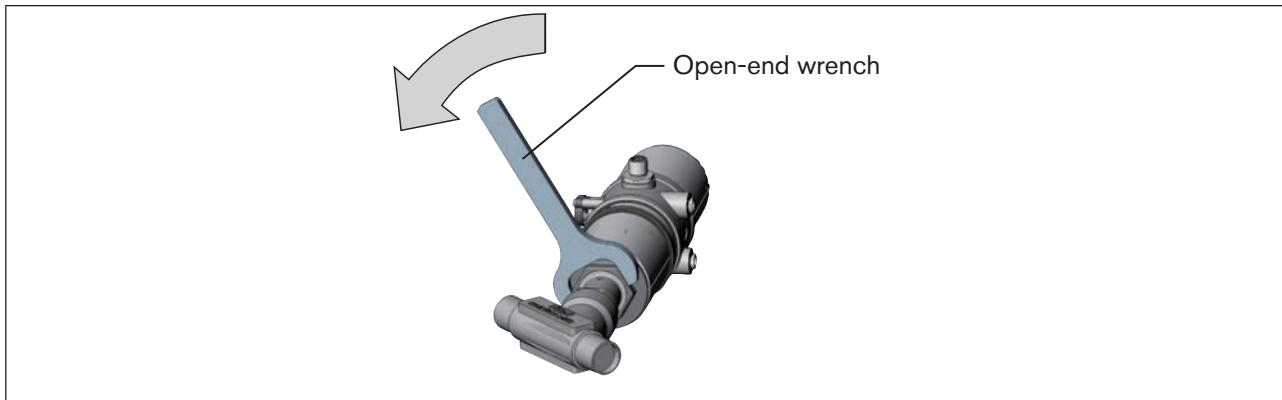

Figure 15: Rotating with open-end wrench
- Rotate the actuator module counter-clockwise only! (see "Figure 15")